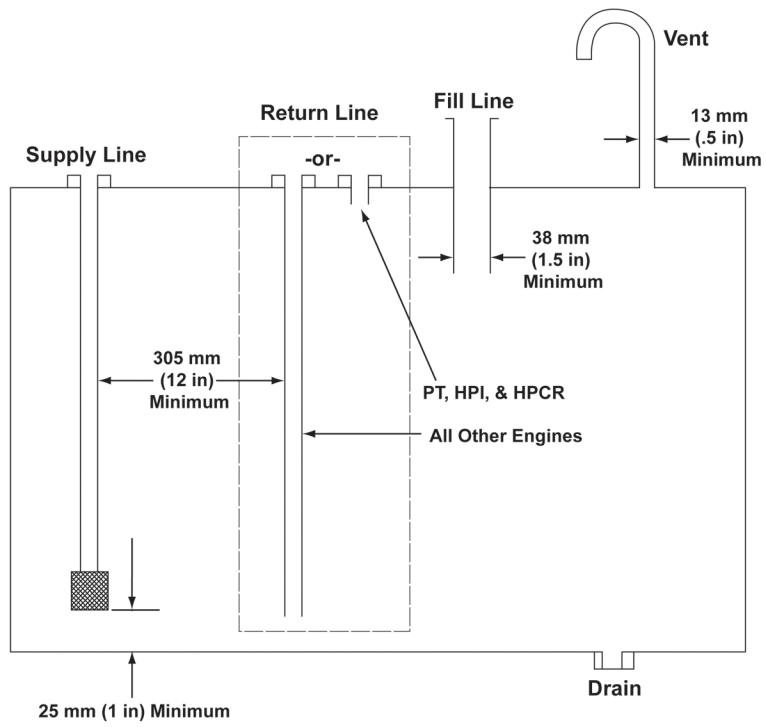

Figure 10-11: Sample Fuel Tank
The fuel return connection must be in the top of the fuel tank. For engines with Pressure Time (PT), High Pressure Injection (HPI) and High Pressure Common Rail (HPCR) systems, the fuel return outlet must terminate above the maximum fuel level in the tank. For all other engines, the fuel return outlet must terminate below the minimum fuel level in the tank, by using a drop tube or standpipe to prevent fuel from siphoning out of the system and causing hard starting/smoke. In all applications, the fuel return outlet must be separated from the fuel supply inlet by at least 305 mm (12 in) of horizontal distance. This is to prevent warm fuel and entrained air and/or combustion gases from the fuel return from entering the fuel supply. Small tanks that can not achieve at least 305 mm (12 in) of separation are recommended to have a baffle(s) installed between the supply and return (see Figure 10-11).